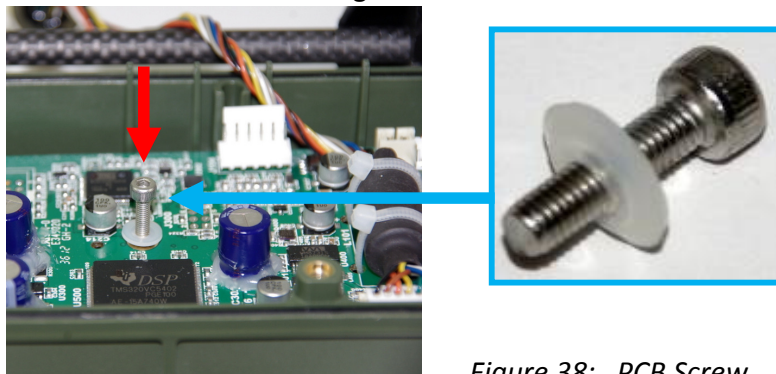

Figure 38: PCB Screw
- Fit the PCB screw as shown in Figure 38.